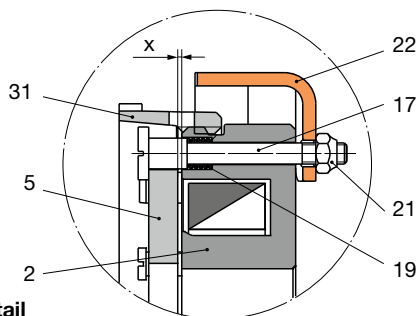

Fig. 3: Detail
When adjusting the locking nuts (21, Fig. 3), please observe that the restoring bolts (17) limit the armature disk (5) stroke in the direction of the brake.
The restoring bolts (17) may only be tightened using the locking nuts (21) so much that at least the adjustment dimension “x” acc. Table 1 and Fig. 3 remains between the armature disk (5) and the coil carrier (2). While doing this, please adjust both restoring bolts (17) evenly!